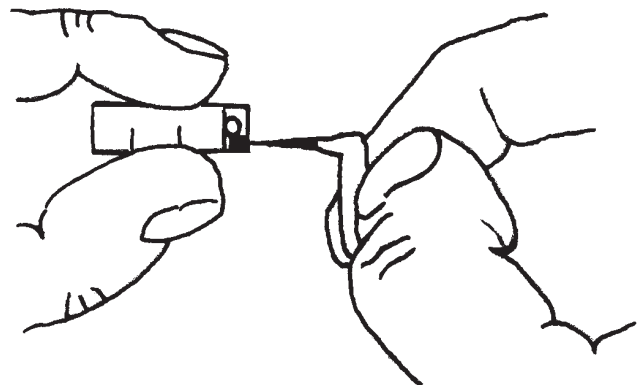

Figure 1
2. Remove the spreader keys from the key card supplied with the CORELINK splice. Holding the splice as shown in Figure 1, insert the keys into the key entry ports (the holes closest to the edge of the splice). The key handle tabs should be parallel to the flat side and pointing away from the splice. Insert the keys all the way to their shoulders.